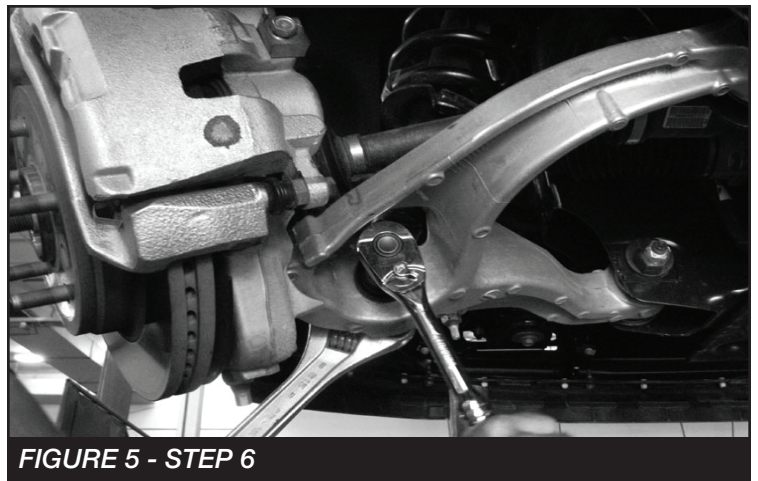

FIGURE 5 - STEP 6
6. Remove the nut from the lower coilover/ control arm bolt. **SEE FIGURE 5**